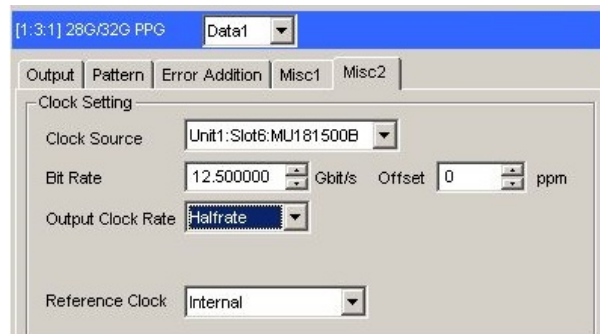

Figure B.5-2 Output Clock Rate Setting on the Misc2 Tab of MU183020A
- 3, 4. Use coaxial cables (applicable part, 0.8 m, K connector) to connect MU183020A's **Data Output1** and **Data Output2** connectors respectively with the **Data Input** connector of each MP1825B No.1 and 2. Then, on the **Misc2** tab of MU183020A, select **Halfrate** in the **Output Clock Rate** box. (Figure B.5-2)